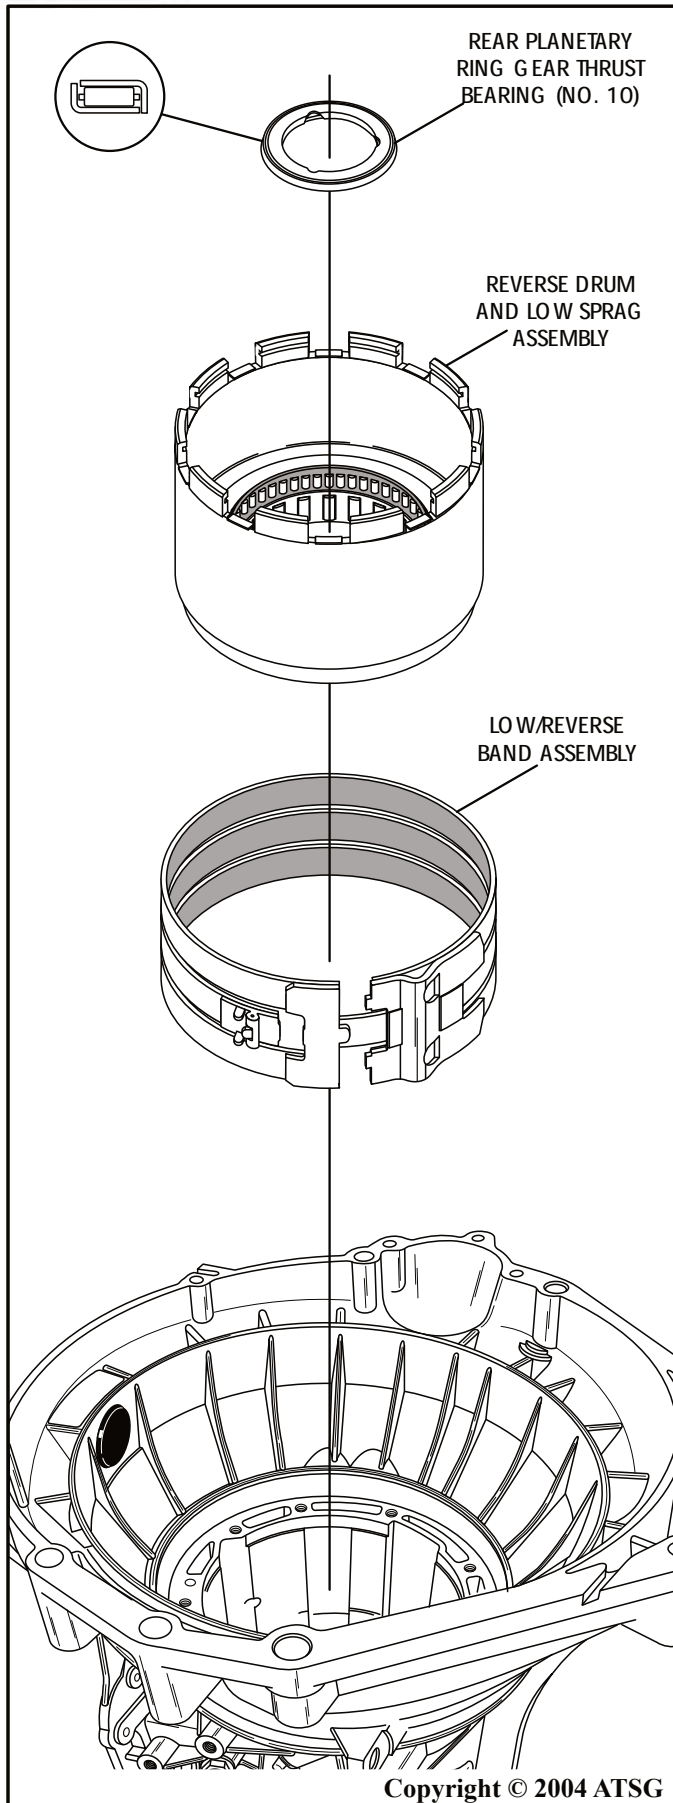

Figure 140
8. Rotate transmission in fixture so that front of case is facing up, as shown in Figure 140.
9. Install the reverse band into transmission, as shown in Figure 140, ensuring that it engages on the band anchor lugs in the case.
11. Install reverse drum and low sprag assembly into the reverse band, as shown in Figure 140, by rotating in a clock-wise direction untill it falls into position.
12. Install rear planetary ring gear thrust bearing (No. 10) into the case in the direction that is shown in Figure 140.